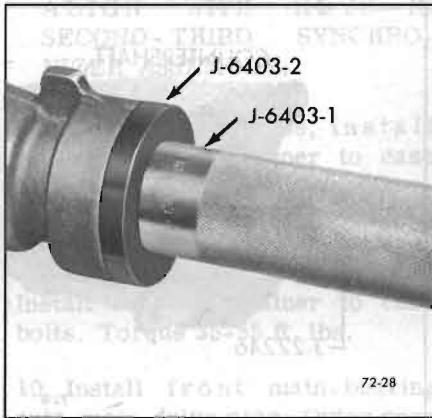

Figure 72-28—Installing Rear Bearing Retainer Oil Seal
a. Install J-6403-2 onto J-6403-1. See Figure 72-28.